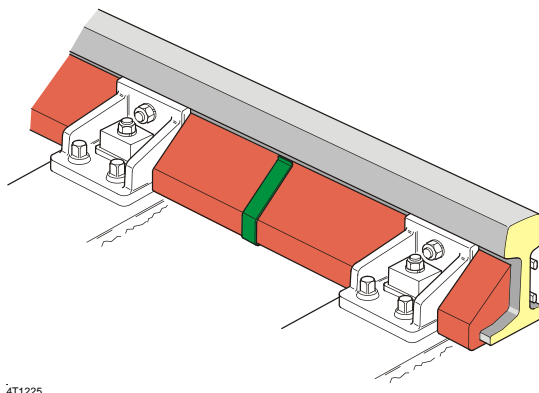

Fig. 2.3 Point with high slide chair fixation
- In points with high slide chair fixation (e.g., 54E1), insulation can only be applied between the slide chairs. Both the outer side and the bottom side are insulated (fig. 2.3)